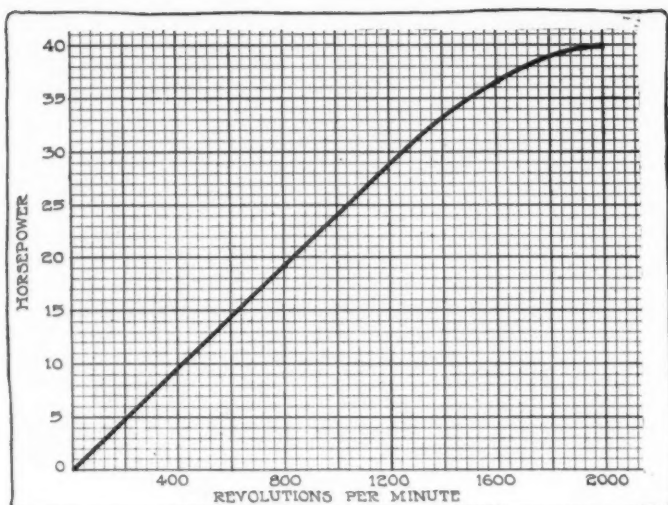

Fig. 4—Horsepower curve of Jeffery four motor measuring 3.75 by 5.25 inches
- 1—The horsepower curve of this motor is shown in Fig. 4.